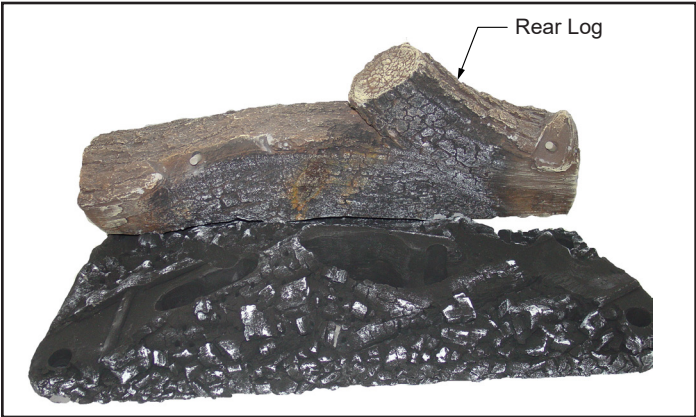
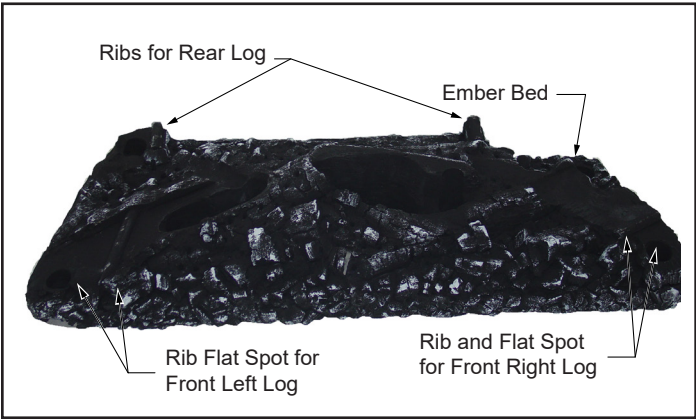
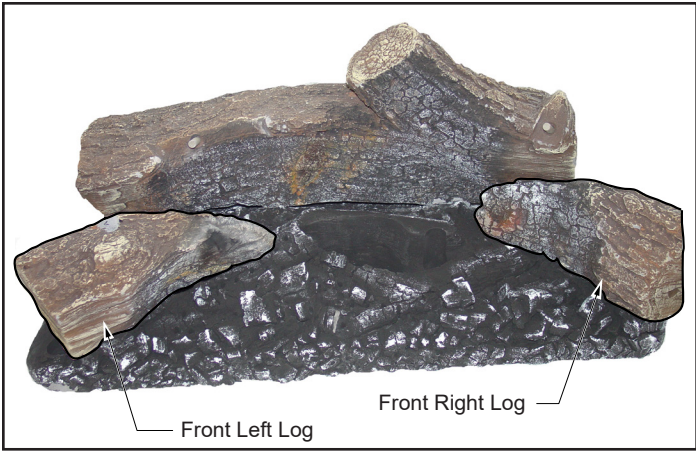

Figure 3.22 - Rear Log
Figure 3.23 - Ribs for Logs
Figure 3.24 - Front Logs
Before beginning log installation, remove stove front and glass frame. Refer to Figures 3.24 and 3.25.
2. Install the rear log by placing it on the ember bed toward the back of the firebox, Figure 3.22. The log should touch the back wall of the firebox. When the log is in place, the two (2) notches on the bottom of the log rest on the two (2) ribs on the back side of the ember bed, Figure 3.23.
3. Install the front left and right logs (Figure 3.24) by placing them on the ribs shown in Figure 3.23. Make sure the logs line up with the flat spots on the ember bed intended for location purposes, Figure 3.24.